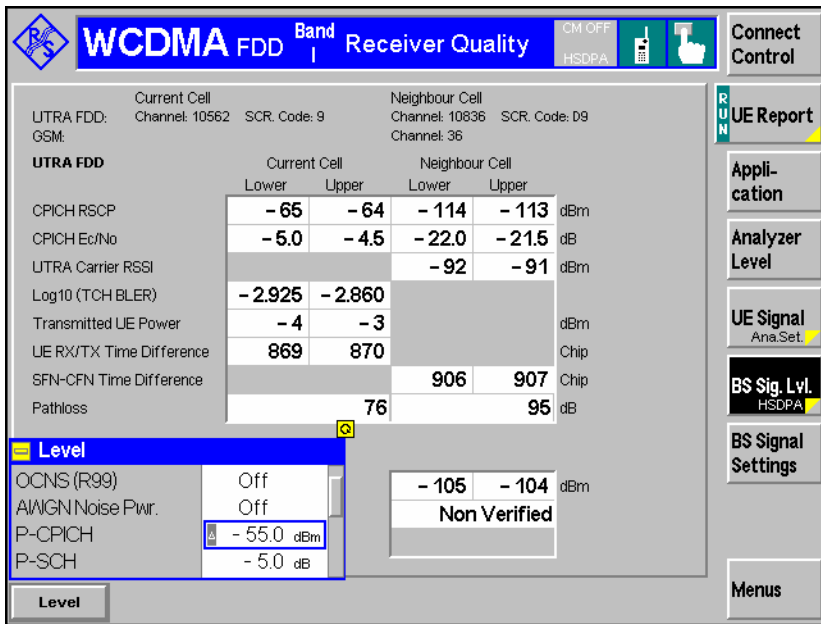

Fig. 6 WCDMA Signalling: UE Report menu
- To determine the output coupling factor of your proven mobile phone, subtract the reported *CPICH RSCP* of the current cell from the P-CPICH output level of the CMU (*BS Signal Lvl. – Level – P-CPICH*). In the example of Fig. 6 above, the output coupling factor equals to  $(64.5 - 55.0)$  dB = 9.5 dB.